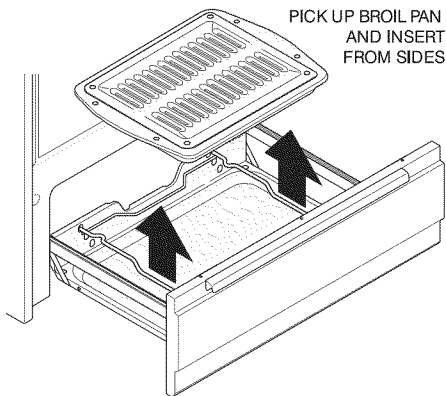

Fig. 1
2. Remove broiler pan and insert (See Fig. 1).
6. Place broiler pan on rack; make sure the broiler pan and insert is positioned as shown, Fig. 1. Be sure front of pan is positioned correctly in rack.